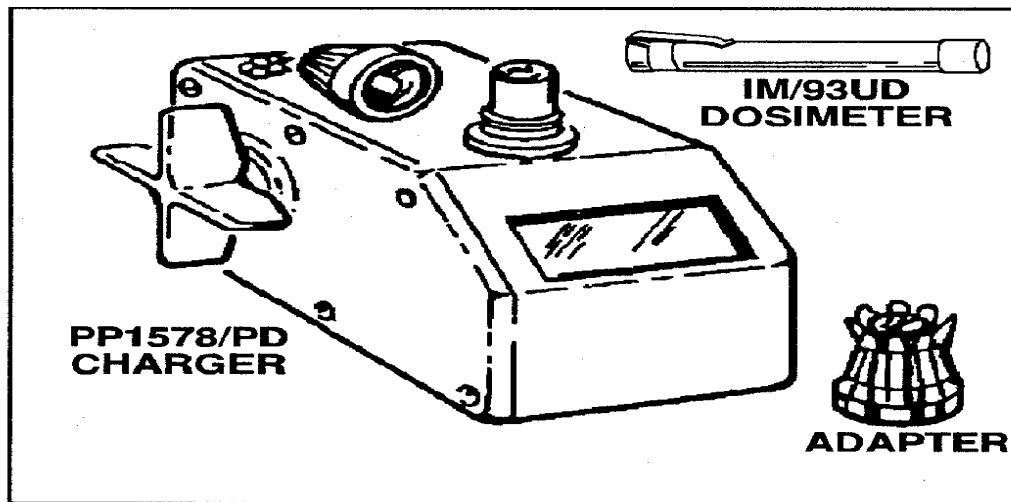

Figure 6-11 The PP1578A/PD Radiac detector charger-IM 93/UD Dosimeter-/Adapter.
c. The Army standard tactical instrument for reading total radiation dose is the IM93/UD (Figure 6-11). It is a tubular device, about the size of a fountain pen. It allows the user to read the accumulated gamma total dose simply by looking through the lens while pointing the instrument toward the sun or another bright light source. One end has a dust cap to keep dirt from the charging contacts. This dosimeter requires a charging unit-the PPI578A/PD radiac-detector charger. This charger is a small, electrostatic-charge generator. It is designed to serve all US and certain NATO combat dosimeters. The charger has its own NATO adapter stored within the case. The major operating features of the charger are the charging knob, charging pedestal, and window. Reading the unit requires direct sunlight or another bright light source, such as vehicle headlights or a flashlight. See TM 11-6665-214-10 for instructions on care and maintenance.